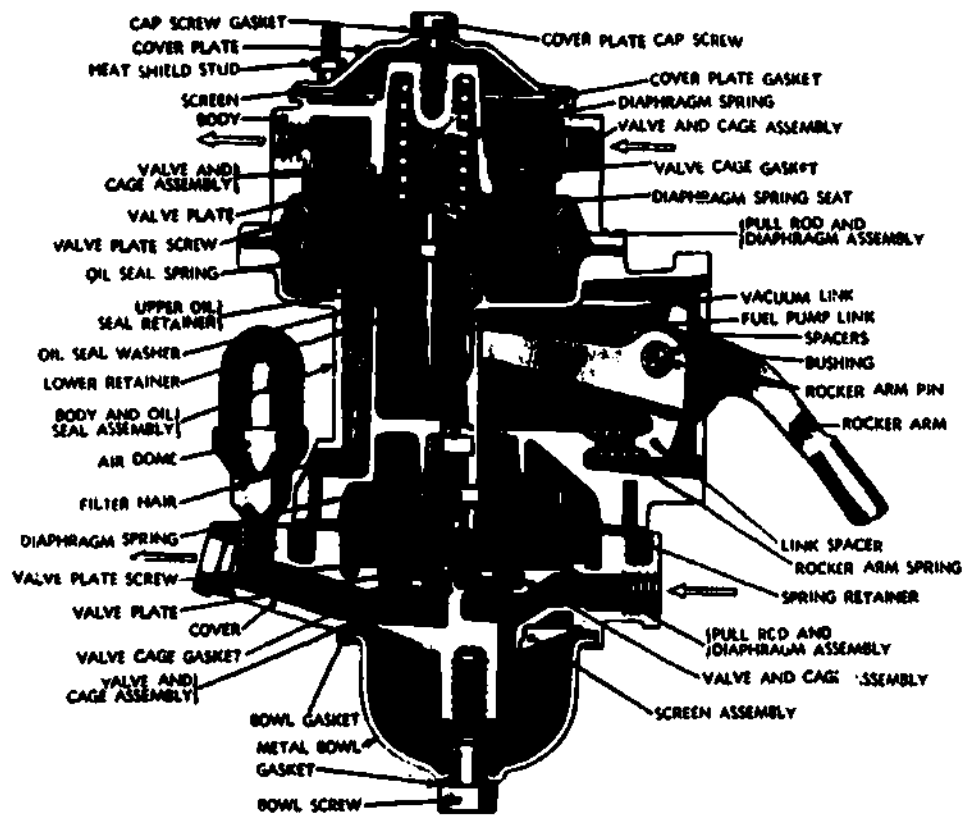

Fig 1-11. Vacuum booster fuel pump.
- (3) Vacuum booster fuel pump (fig 1-11). Some mechanically operated fuel pumps have a vacuum pump (also called a vacuum booster). The purpose of the vacuum pump is to assist in the operation of the vacuum-operated windshield wipers. When an engine is being accelerated or is being operated under load, the engine manifold vacuum is not strong enough to operate the wipers. At this time the fuel pump vacuum booster furnishes vacuum to keep the wipers going. The vacuum booster and the fuel pump are normally located in separate sections of a single pump housing but operate independently of each other even though they are both operated by the same rocker arm. The vacuum booster is in the top section of the pump.